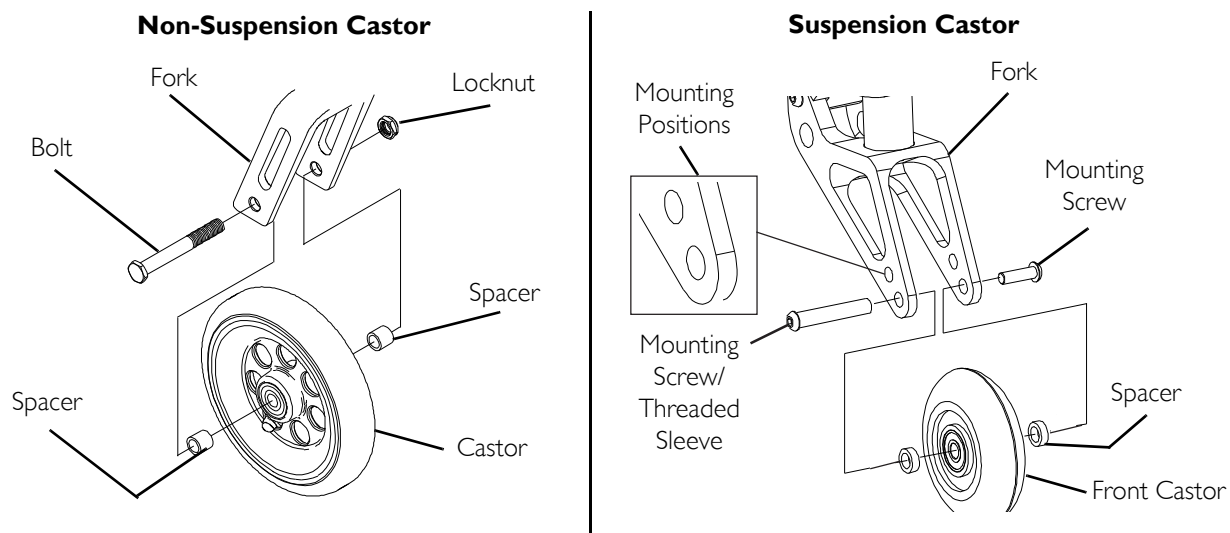

FIGURE 5.22 Replacing/Adjusting Castors
NOTE: For this procedure, refer to FIGURE 5.22 on page 47.
- iii. Reinstall the mounting screw/threaded sleeve assembly through the fork, front castor and two spacers. Refer to FIGURE 5.22 for hardware orientation.